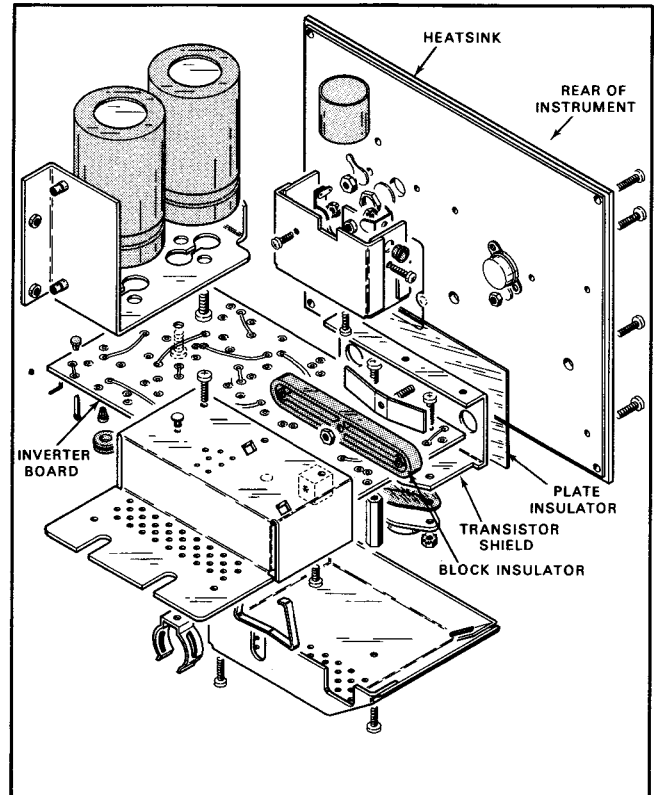

Fig. 4-5. Exploded-view drawing of the Power Supply Inverter Unit identifying several critical parts.
To remove and replace the Power Supply Inverter board, use the following procedure. An exploded-view drawing of the power unit is shown in Fig. 4-5 and also at the rear of the Manual in the Mechanical section. Several critical parts are identified in Fig. 4-5; there are several different ways to disassemble the power-unit, but to ensure safe operation follow the procedure.
7. Remove the Line Filter shield (two screws securing shield to the rear panel. It is not necessary to disconnect the Line Filter leads. To gain access to the three screws securing the inverter shield to the transistor heat shield, push the Line Filter assembly away from the rear panel. See warning and Fig. 4-5.
8. Remove the three screws securing the inverter shield to the transistor heat shield. See Fig. 4-5.